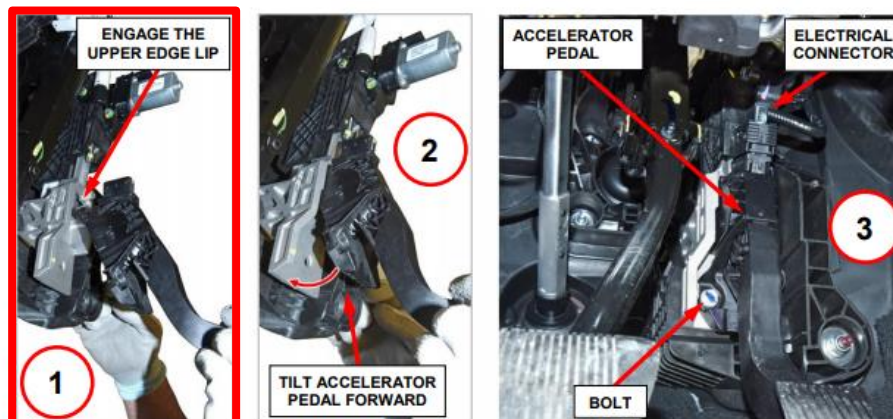

Figure 11 – Install Accelerator Pedal to Adjustable Pedal Assembly
When performing step 12 on page 9 of the Dealer Instructions it is important to ensure that per figure 11 the “Upper Edge Lip” is fully engaged. Failure to do so could result in the pedal not having the intended clearance between it and the floor mat.
12. Connect the accelerator pedal electrical connector (Figure 11).